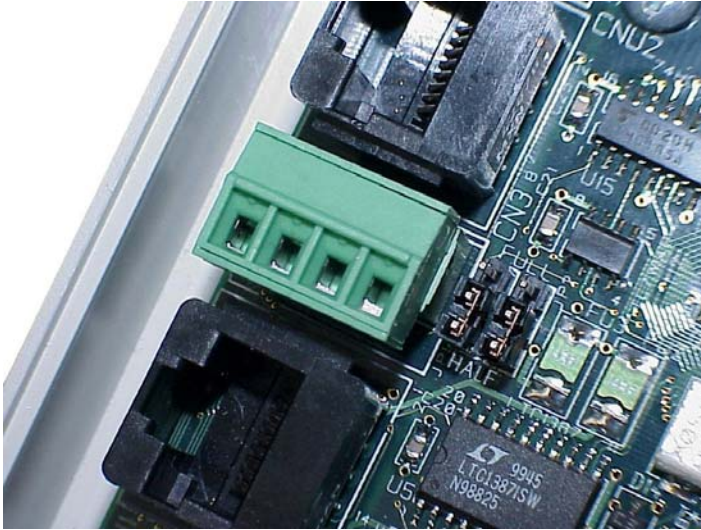

Figure 26: RS485 Terminal Block (CN3) and Duplex Selection Jumpers
- The required drive configuration will vary depending on the specific drive(s) involved. In general, most parameters are freely configurable to match the gateway's port settings (baud rate, parity etc.) The most critical selection, however, is that if the drive is directly connected to the gateway via 2-wire mode, then the drive must be properly configured for 2-wire RS485. Note that this may involve hardware configuration in addition to parameter changes. For example, G7/Q7/H7-series drives have duplex selection jumpers located on the drive's control board near the communication ports. For these drives, both jumpers must be placed in the "HALF" position. Refer to Figure 26 for an example detailed view of correctly-positioned duplex selection jumpers.